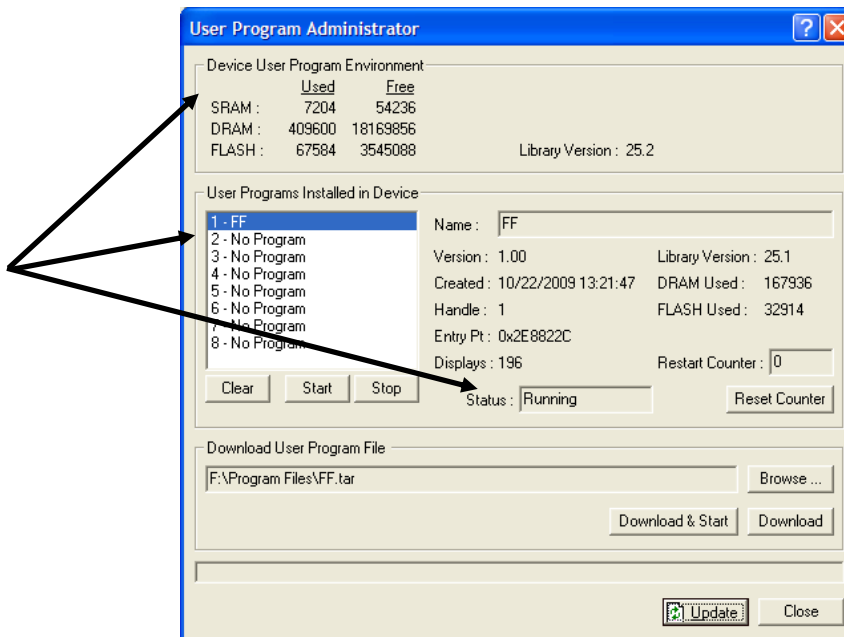

Figure 6. User Program Administrator
10. Click **OK**. The User Program Administrator screen displays (see Figure 6). Note that: